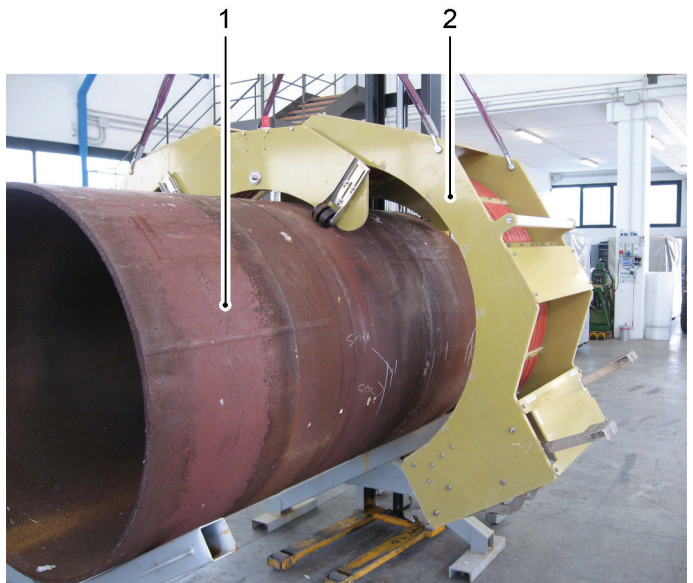

Figure 6.32 - Moving down of the clamp coil onto the pipe
- 6) Move down the clamp coil (see Figure 6.32/2) onto the pipe (1).